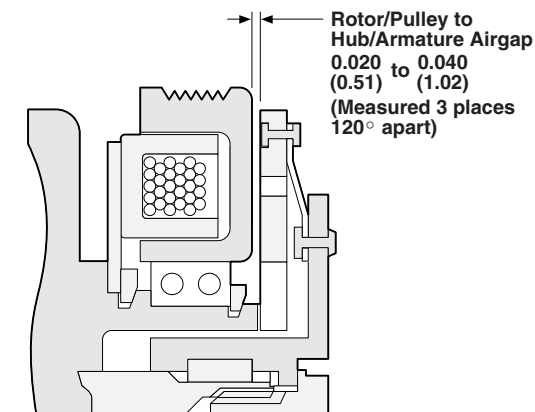

Figure 7
Step 4: Installing the Hub/Armature Assembly (9)
- A. Align the hub keyway with shaft key (7) and slide the hub/armature (9) onto the compressor shaft.
- B. Set the rotor/pulley to hub/armature air gap at 0.020 to 0.040 inches by adding or removing shims (8). Measure using a feeler gauge at 3 locations 120° apart. (See Figure 7)
- C. Install the lockwasher (10) and shaft nut (11). Torque to 155 lb. in. using a torque wrench and spanner wrench.
- Reset air gap (See Figure 7)
- Reset air gap (see Figure 7)